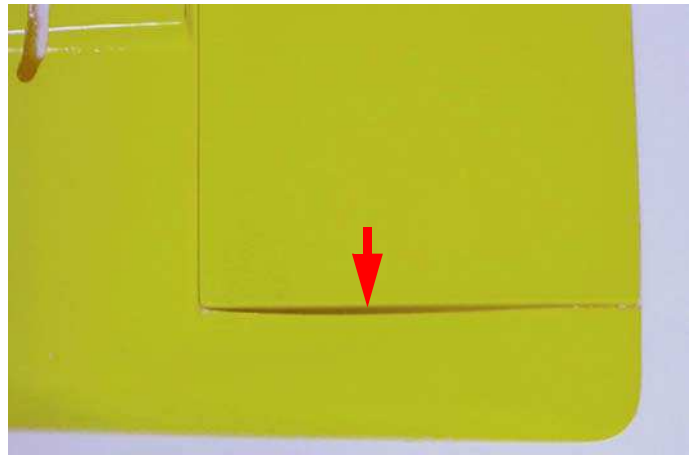

Fig.6: Too much gap: reduce it.
The correct alignment can be verified fitting the rudder with the fin; doing in this way, an excessive gap stands clearly out (see figure 6).
- check once again (see figure 6) and repeat up to fit perfectly the fin with the rudder.